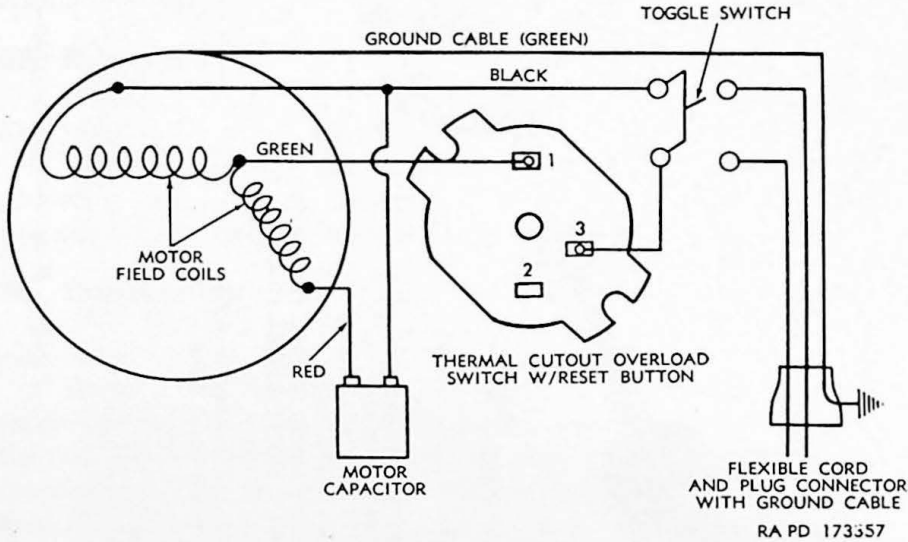

Figure 7. Wiring diagram.
Loose wiring connections or improper hook-up.	Check cable connection against wiring diagram (fig. 7).
a. Install the bushing (V) in the opening of the bench grinder base, where the flexible cord enters, and insert the conductor size AWG No. 16 0 to 600-volt flexible cord through the bushing. Secure the green ground cable terminal of the flexible cord to the interior of the grinder base (F) with one 8-32 x $\frac{3}{8}$ roundhead screw (C). Connect one of the remaining two cables of the flexible cord to a contact screw on the off and on toggle switch (G) and tighten the contact screw. Connect the remaining cable of the flexible cord to the second contact screw on the same end of the off and on toggle switch and tighten the contact screw. To one of the terminals at the opposite end of the off and on toggle switch connect the black field cable from the motor and a short piece of No. 14 insulated cable and tighten contact screws. To the remaining terminal of the toggle switch connect a short piece of No. 14 insulated cable and tighten contact screws. Solder the free end of the cable leading from terminal on the toggle switch, to which the black motor cable is connected, to one of the terminals on the capacitor. Solder the red motor cable to the second terminal of the capacitor. Solder the green motor cable to terminal No. 14 of the thermal cutout overload switch with reset button. Solder the free end of the remaining cable leading from toggle switch to terminal No. 3 of the thermal cutout overload switch with reset button. See wiring diagram figure 7.
b. Install the thermal cutout overload switch with reset button (T) and thermal cutout switch clamp (S) in the bench grinder base (F) and secure with two No. 8-32 x $\frac{3}{8}$ roundhead screws (C).
c. Install the switch guard (E) on the front of the bench grinder base and secure two No. 8-32 x $\frac{3}{8}$ roundhead screws (C). Install the off and on toggle switch (G) through the opening in bench grinder base and secure with toggle switch nut (D).
b. *Motor Field.* Test the motor field for grounds and shorts with the use of a test lamp connected in series with a 110-volt power supply cable. Test for grounds by applying one power supply cable to the metal core of the motor field and then applying the other cable to each of the motor field leads, in turn; if test lamp lights, motor field is grounded and the entire motor field must be replaced. Test the motor field for open circuits by applying one power supply cable to one of the motor field leads and the other power supply cable to the other corresponding field lead. Refer to wiring diagram (fig. 7). If test lamp fails to light, an open circuit exists in the motor field and the motor field must be replaced. Complete the test for open circuits by checking the other pair of field leads in a like manner.
a. Install the cables from the motor field through the opening in top of the bench grinder base. Connect the cables to the motor capacitor and toggle switch as described in paragraph 52 and figure 7. Install the motor assembly on the bench grinder base as described in paragraph 53.